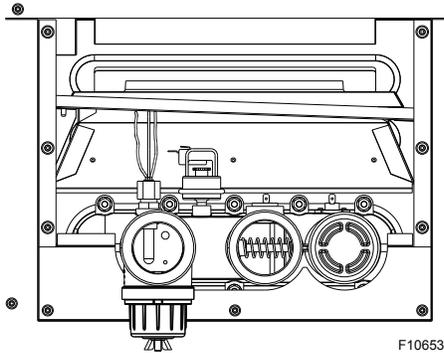

Figure 34. Component Wiring Locations - In/out Header
- Disconnect wires at high limit, AGS (automatic gas shut-off), pressure switch on the in/out header and ProTek Shield bonding wire. See **Figure 34**.